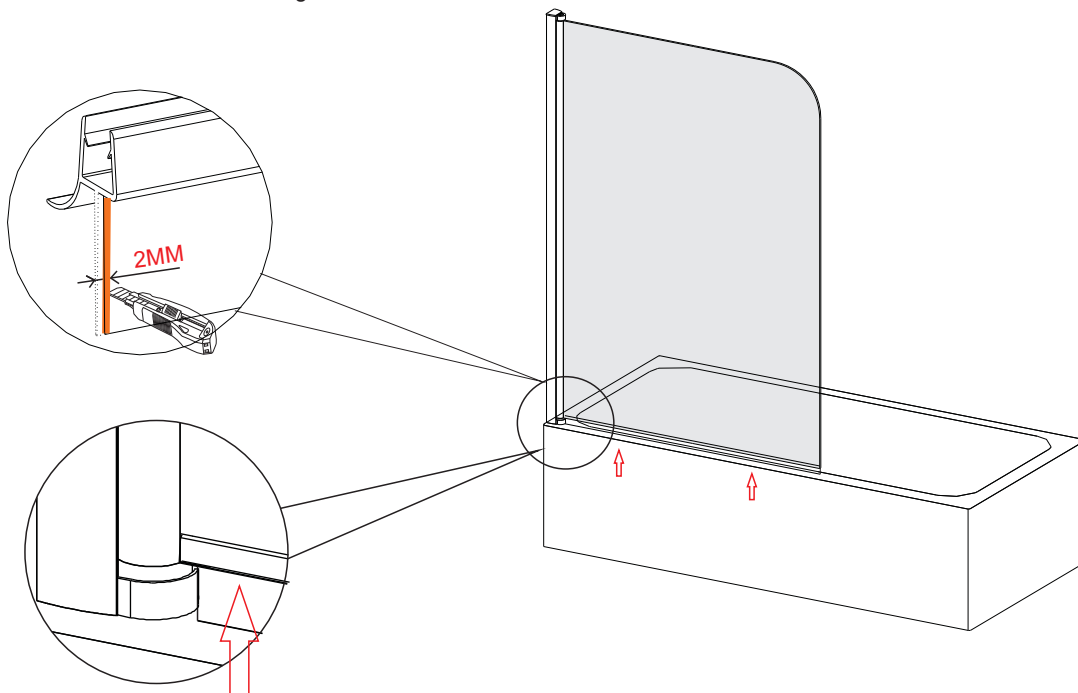

FIG 8
8. Fix the bottom seal. **Fig 8.**